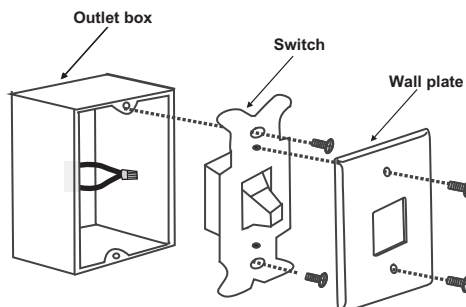

Figure 18
Step 1. Remove the existing wall plate and the old switch from the wall outlet box. Wire nut the **BLACK** leads (hot) together and push back inside the outlet box. (Fig. 18)